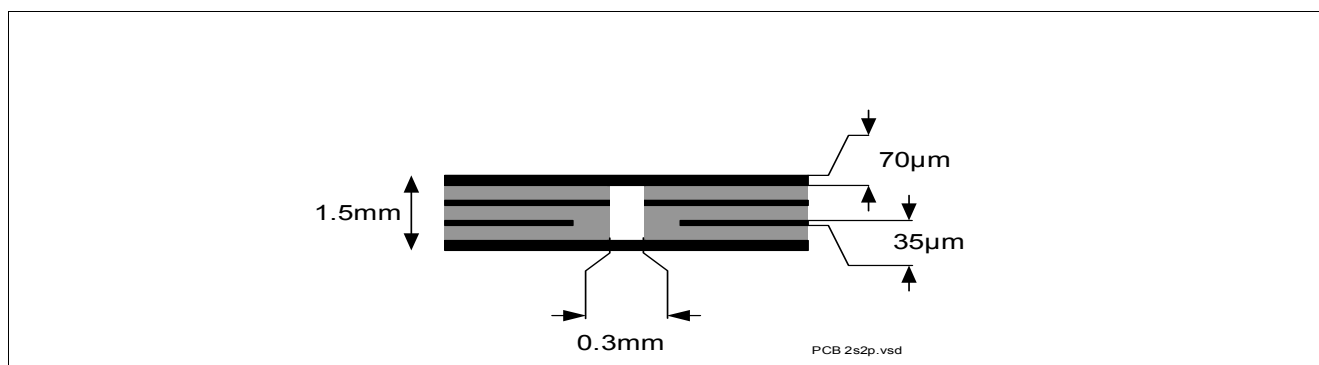

Figure 4 2s2p PCB Cross Section
2) Specified R_{thJA} value is according to JEDEC JESD51-2,-5,-7 at natural convection on FR4 2s2p board; The product (chip + package) was simulated on a 76.4 x 114.3 x 1.5 mm board with 2 inner copper layers (2 x 70 μ m Cu, 2 x 35 μ m Cu). Where applicable, a thermal via array under the exposed pad contacts the first inner copper layer. Please refer to Figure 4.